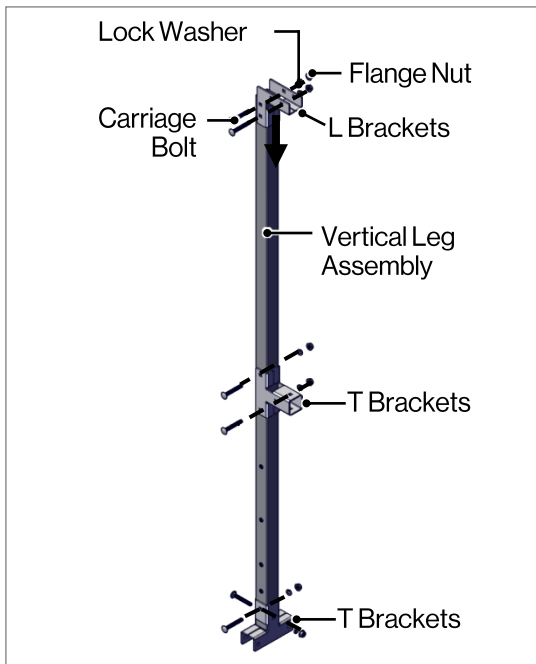

Fig. 3
1. Install four (4) T Brackets and two (2) L Brackets to the Vertical Leg Assembly using six (6) Carriage Bolts, Lock Washers, and Flange Nuts (Fig 3). Repeat this step on the other side.